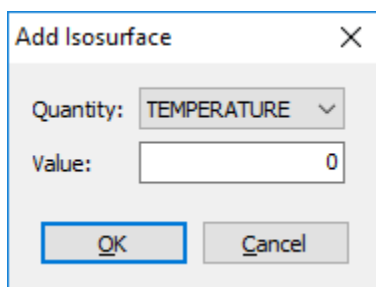

Figure 7-18 Add Isosurface dialog
3. Select **Add isosurface**. The **Add Isosurface** dialog will open as shown in Figure 7-18.